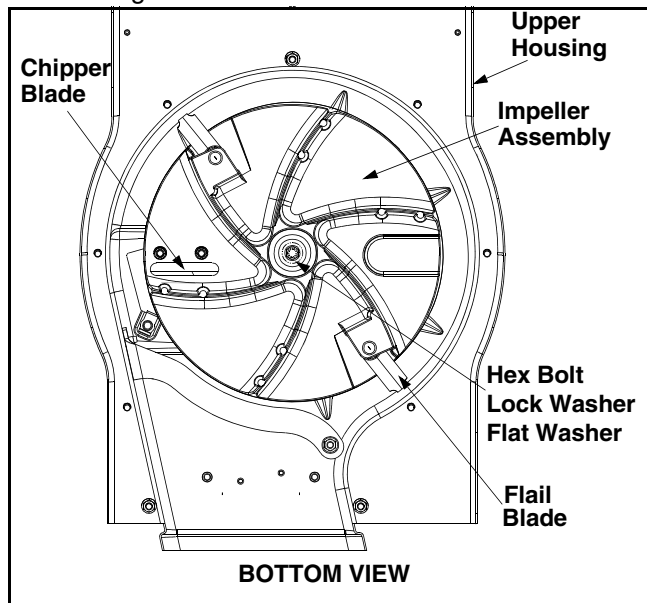

Figure 13
- Remove the hex bolt, lock washer, and flat washer that secure the impeller assembly to the crankshaft. See Figure 13.